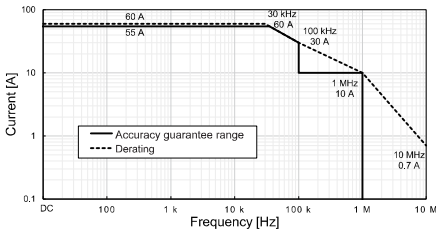

Figure 1. Frequency Derating (at 0°C to 40°C)
Maximum input current	Not exceeding derating curve (See Figure 1.) However, a current of up to $\pm 200$ A peak (design value) is allowable for up to 20 ms.
- Amplitude accuracy and phase accuracy are defined within the accuracy guarantee range shown in Figure 1, "Frequency Derating." However, design values are given for DC < f < 10 Hz.